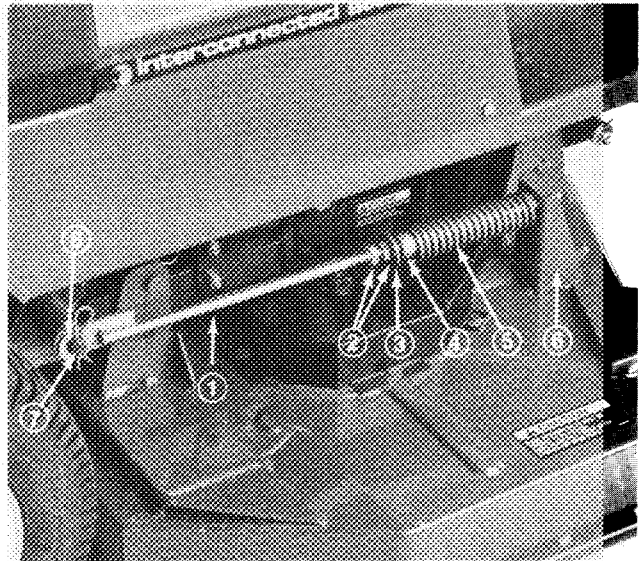

Figure 3
## INSTALL DECK TENSION RODS (Fig. 3 & 4)
1. Thread (2) jam nuts onto each deck tension rod (Fig. 3).
3. Insert front end of rod into bracket on deck and rear end onto post on rider frame. Secure rear end on post with a washer and cotter pin (Fig. 3).
**Note:** Rear end of rod to be positioned on post with welded bracket on inside of rod as shown in Fig. 3.